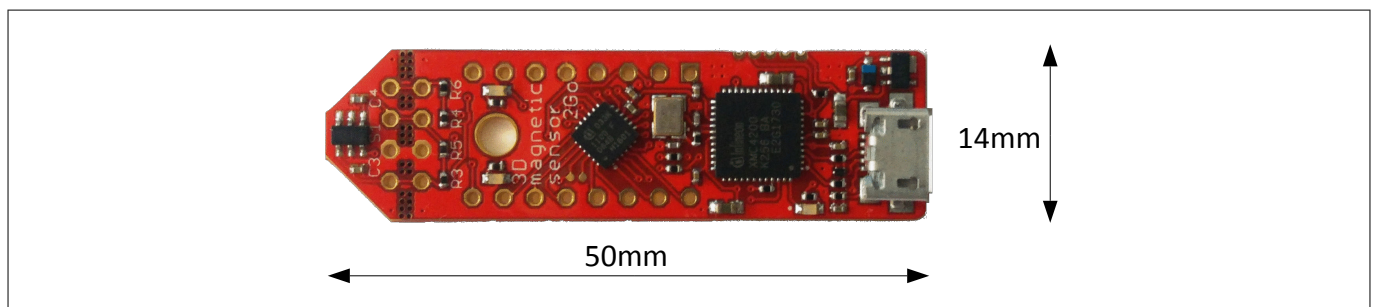

Figure 1 **3D Magnetic Sensor 2 Go EvalBoard**
- The 3D evaluation board (EvalBoard) as shown in Figure 1, a ready-to-use printed circuit board (PCB) with the 3D Hall sensor. The EvalBoard is based on the XMC2Go-Kit. More technical documents and detailed description can be found at <http://www.infineon.com/xmc2go>.